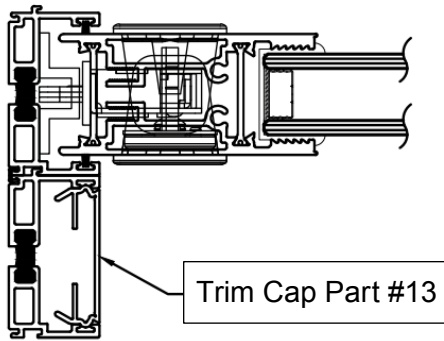
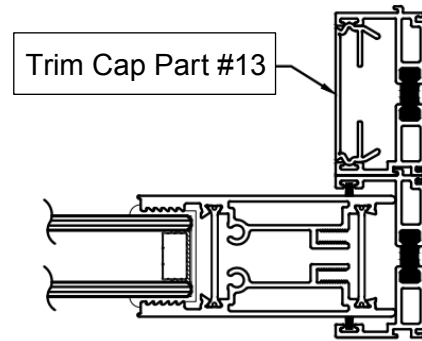

FIGURE 15A
FIGURE 15B
20. Take the longest trim cap pieces (Part #13) and install into the exterior jamb track (Part #7) of the operable side shown in figure 15a and interior jamb track of the fixed side as shown in figure 15b.